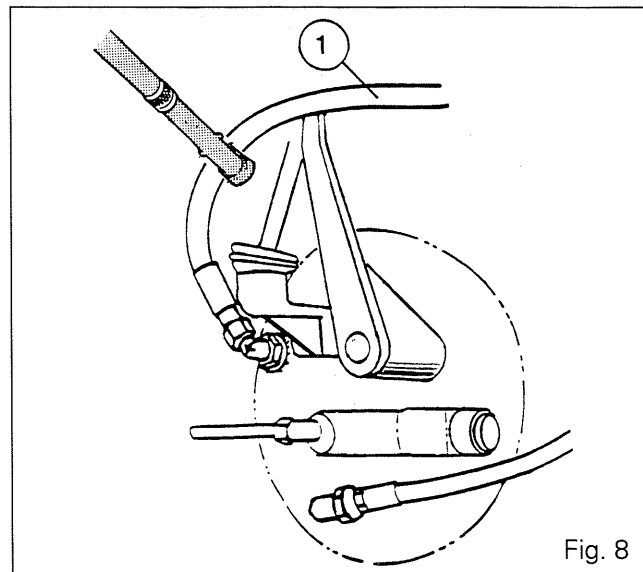

Fig. 8
10. Run the engine at about 1,200 rpm. Using a clamp with suitable protection, block the return hose (1) to the gearbox selector cover (Fig. 8).